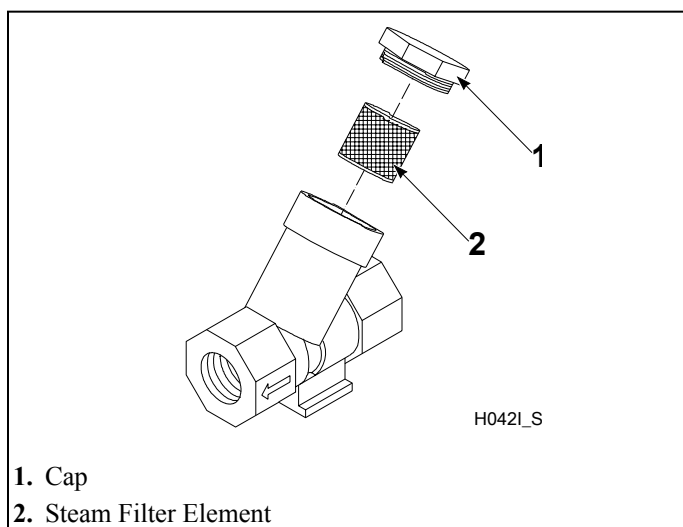

Figure 65
3. If applicable, clean the customer-supplied steam filter. Refer to *Figure 65*.